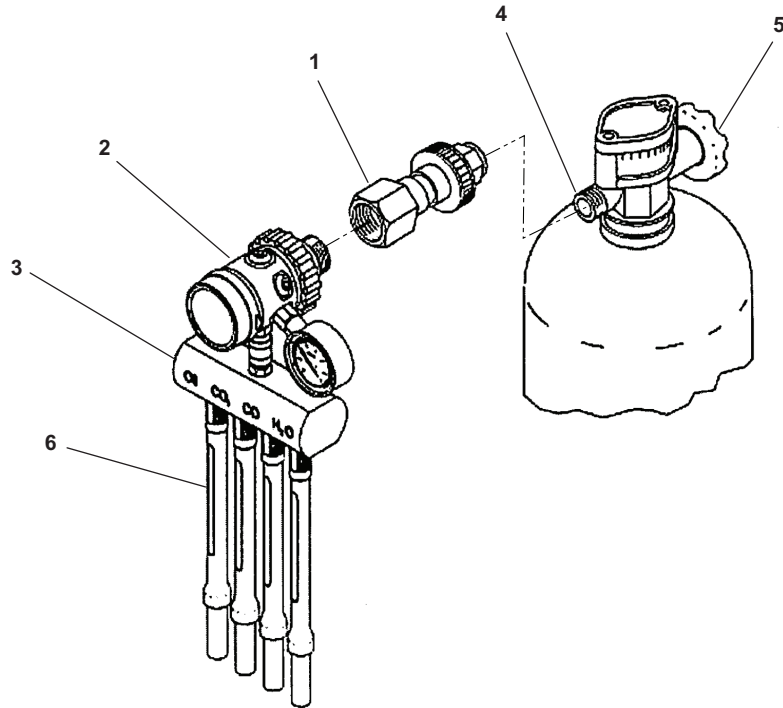

Figure 6-52. SCBA Cylinder, Adapter, and Measuring Device
- (6) Install the air test kit adapter (figure 6-52, item 1), reducer (figure 6-52, item 2), and measuring device (figure 6-52, item 3) on the SCBA cylinder (figure 6-52, item 4). All connections should be hand tight only.
- (7) Slowly OPEN the SCBA cylinder valve (figure 6-52, item 5) and allow air from the SCBA cylinder (figure 6-52, item 4) to flush through the measuring device (figure 6-52, item 3) for at least three minutes.
- (8) CLOSE the SCBA cylinder valve (figure 6-52, item 5).
- (10) Insert each Drager test tube (figure 6-54, items 1, 2, and 3) into the tube holder (figure 6-52, item 6) of the measuring device (figure 6-52, item 3) specifically marked for that Drager test tube. Ensure that the flow arrow on the Drager test tube is pointed away from the measuring device.